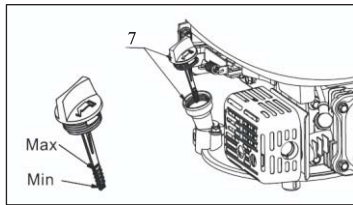

Fig. 7
2. Remove the oil filler cap/dipstick (7) and wipe it clean.
3. Insert the oil filler cap/dipstick (7) into the oil filler neck as shown, but do not screw it in, then remove it to check the oil level.
- Reinstall the oil filler cap/dipstick (7). (See Fig. 7)